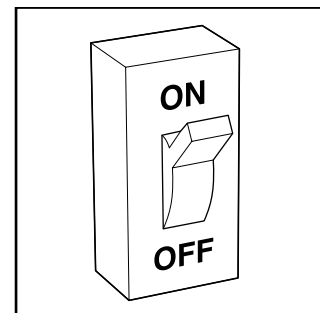

Fig. 16 - Turn On Electrical Supply
8. Turn ON the electrical supply to the furnace and wait 1 minute. (See Fig. 16.)